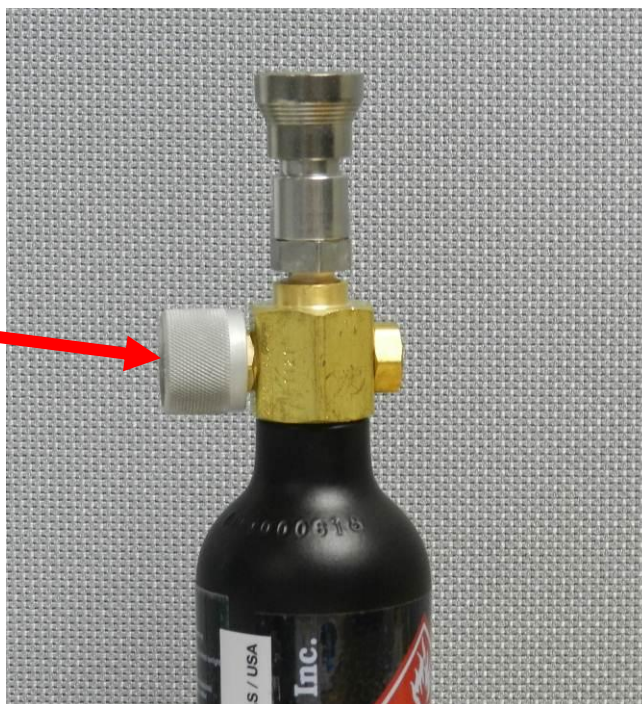

Figure 8. Hydrogen fuel cylinder on/off valve
The hydrogen fuel cylinder (see Figure 7), when full, will provide the MicroFID II with up to 70 hours of continuous operation in a single fill. To fill the hydrogen fuel cylinder, the MicroFID II hydrogen filling station Part No. A1201222 is required (see Figure 8). The hydrogen fill station is outfitted with a CGA 350 adaptor for use with a high pressure hydrogen cylinder that contains at least 99.999% pure grade hydrogen (also known as ultra high purity hydrogen).
2. Attach the MicroFID II hydrogen fuel cylinder to the quick connect mate on the hydrogen filling station (see Figures 8 and 10).
3. Open the on/off valve on the hydrogen fuel cylinder. See Figure 8.
4. Turn on the hydrogen fuel cylinder on/off valve (see Figure 8) by rotating the knob counter-clockwise. Wait a few minutes for the hydrogen fuel to flow to the MicroFID II detector.